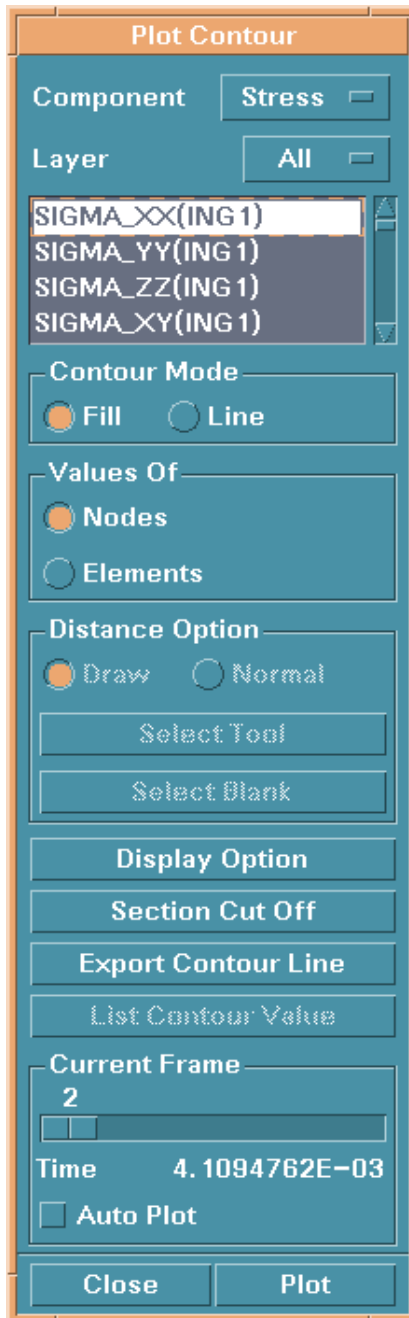

Figure 8.2.1 Plot Contour
This function is used to display the results of individual steps. The color legend, located on screen, displays the corresponding contour values. The location of the highest contour value on the model is labeled with an asterisk (*) and the lowest is labeled with a zero (0). The options are shown in Figure 8.2.1.